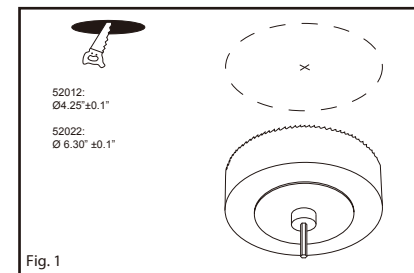

Fig. 1
1. Use the hole size template included in box to drill the hole in ceiling. Prepare supply wires: Install and unshield the line feed cable 6" (15cm) and strip wires 5/8" (1.6cm). (Fig.1)